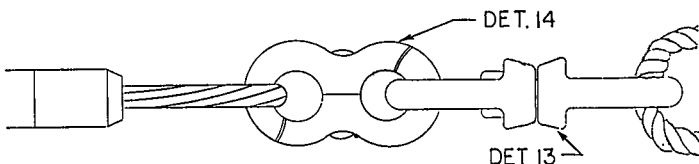

FIG. 14 COUPLING OF WIRE GRIP, SWING LINK AND POLYPROPYLENE ROPE (PAR. 4.31)
4.31 Two sizes of cable grips are furnished with the puller. These are the "Chinese Finger" type which are suitable for various sizes of wire. Select the grip which fits tightest to the ends of the wire or group of wires to be pulled. Couple Detail 14, Swing Link to the cable grip as shown in Figure 14. If the polypropylene rope is not spliced to the swivel, it should be fastened by means of an eye splice.